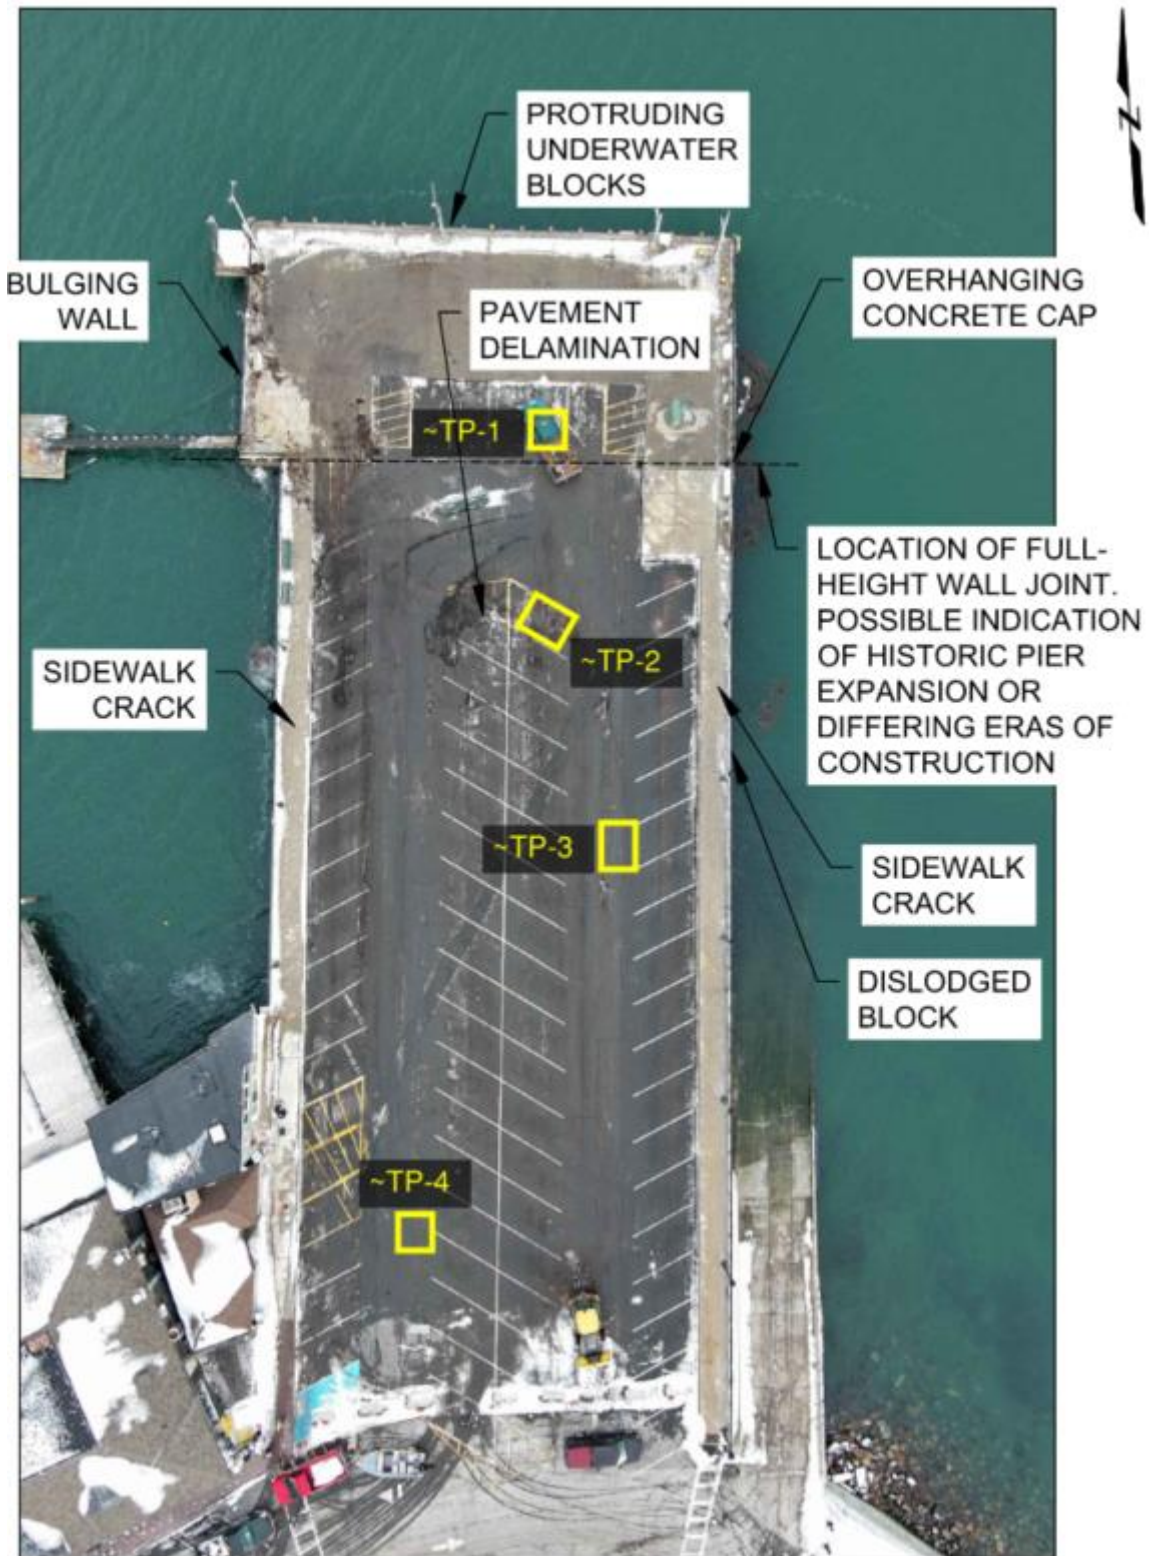

Fig. 1 – Test Pit Locations
GEI Consultants, Inc. observed four (4) test pits at the Town Pier in Bar Harbor, ME on February 21, 2024. The test pits were excavated by contractor KJ Dugas at the approximate locations denoted as TP-1 through TP-4 on Fig. 1 (Attachment 1).
1. Fig. 1 - Test Pit Locations
Location	See Fig. 1